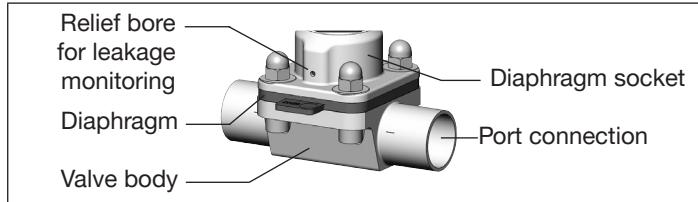

Fig. 18: Relief bore
- Periodic control of the relief bore ("Fig. 18")